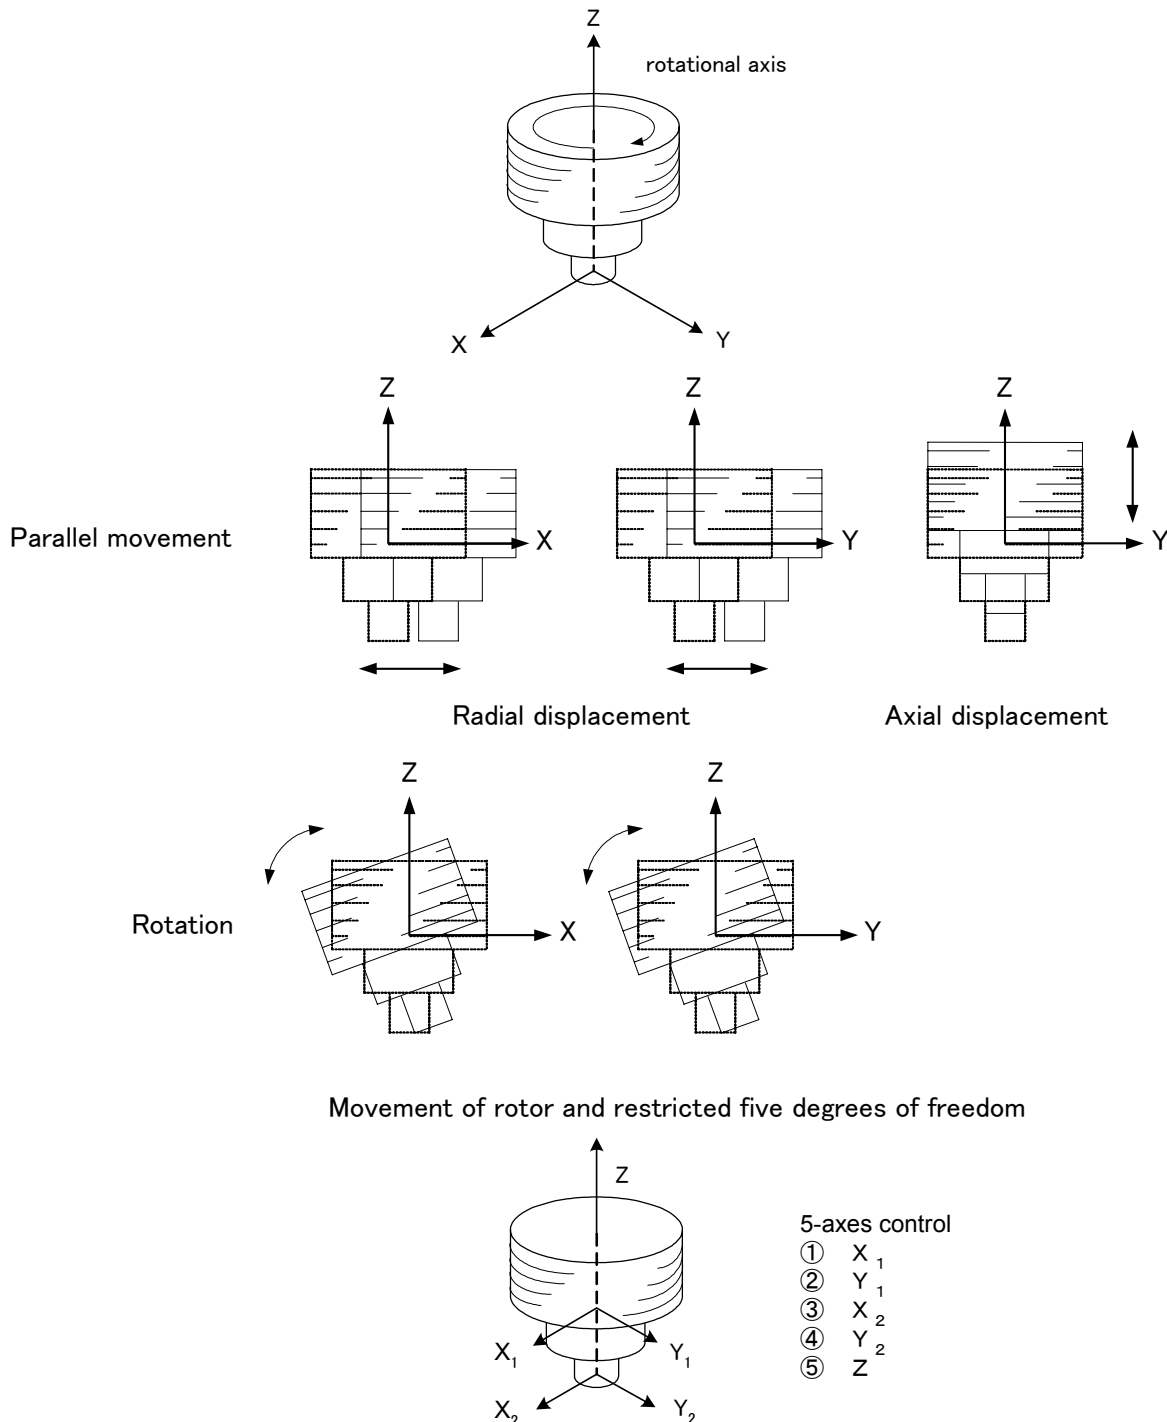

Fig.3-2 Outline of 5-Axes Control
A radial magnetic bearing (7) is used at the top and bottom of the drive shaft. The axial magnetic bearings (8) are used to levitate a disk attached to the drive shaft between the axial magnetic bearings. Each magnetic bearing is provided with a gap sensor (10) to detect the rotor position. Fig. 3-2 illustrates the outline of 5 - axes control. The rotor is levitated by the control of these 5 axes allowing rotational freedom.